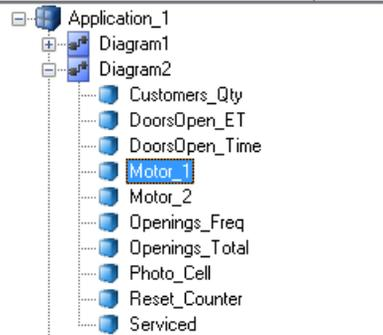

Figure 37. The path for *Motor\_1* variable selected in the tree.
- Expand **Application\_1 > Diagram2**. Double-click **Motor\_1** to insert the full path, see Figure 37.